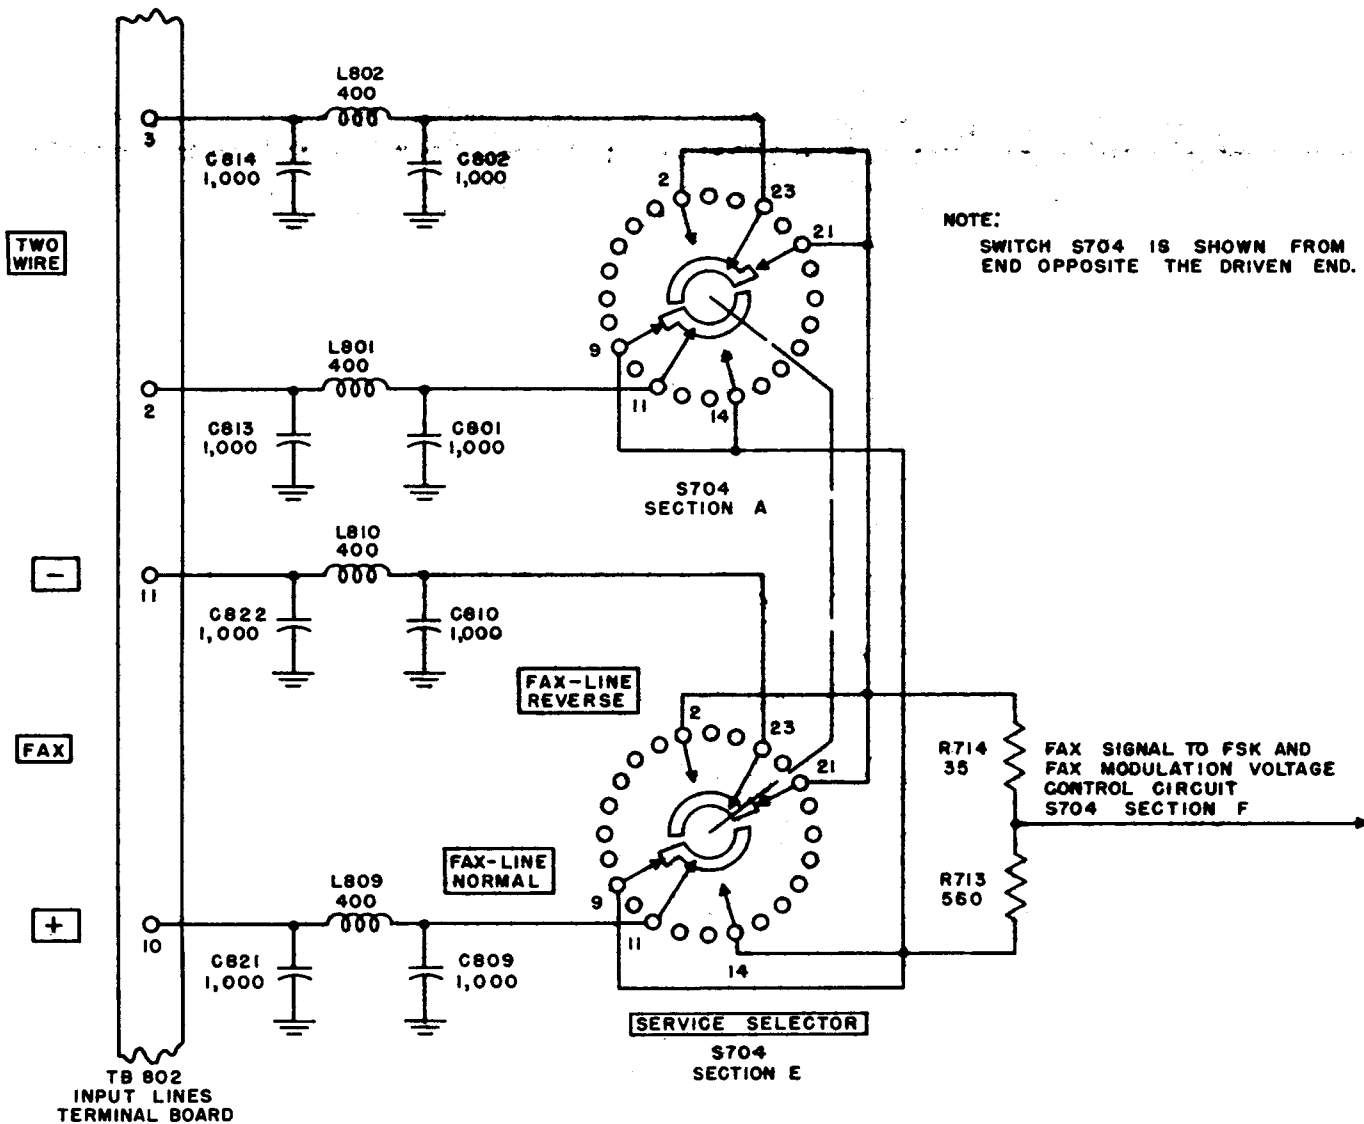

Figure 38. Fax input circuits, simplified schematic diagram.
71. Fax Input Circuit (fig. 38)